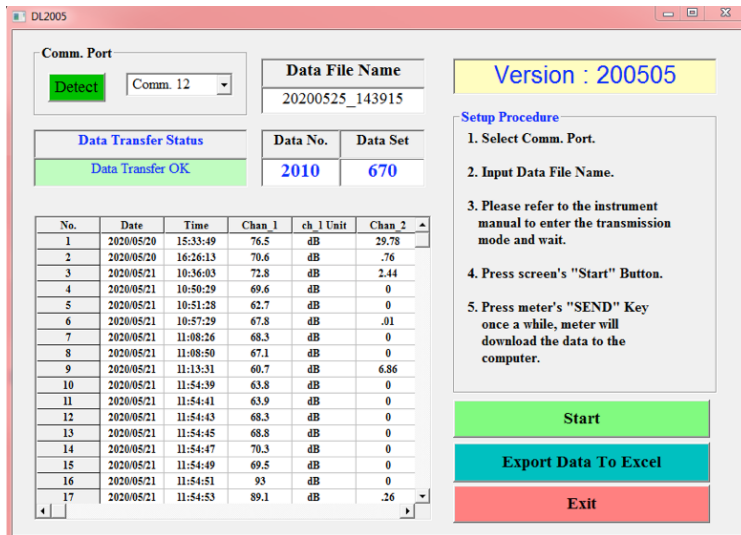

Figure 4
9. Click OK to close the confirmation box and view the downloaded data as shown in Figure 4.